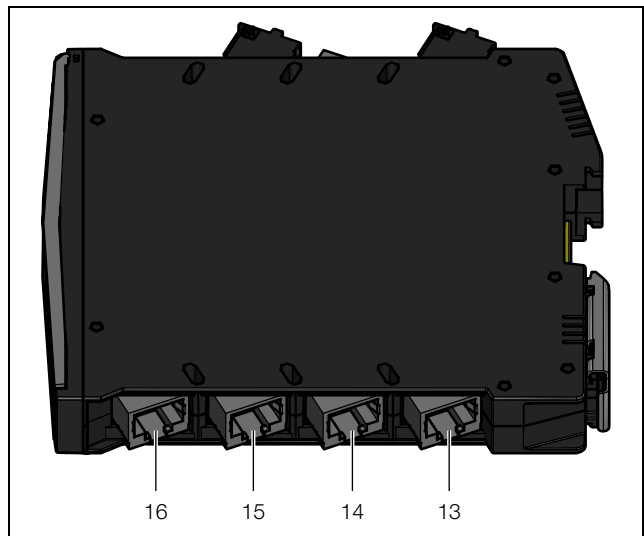

Fig. 6: Bottom connections on the IoT interface
A 24 V $\overline{\text{---}}$ connection is available for the power supply. The bus cables then supply power to the connected CAN bus sensors. Alternatively, the IoT interface can also be supplied with the required operating voltage from a cooling unit connected at connection X6 (fig. 6, item 14).
Rather than via the direct connection and an external power supply unit, you can also supply the IoT interface with the required operating voltage from a Blue e+ cooling unit connected at connection X6 (fig. 6, item 14).
If the electrical connection is **not** made to the direct connection, no second cooling unit can be attached to connection X5 (fig. 6, item 13) and no components (such as CMC III sensors or the Smart Monitoring System) can be connected to the CAN bus connections.
A wide range of sensors, actuators and systems for access monitoring (see section 15 "Accessories") can be connected to the two CAN bus interfaces (fig. 6, item 15 and 16).